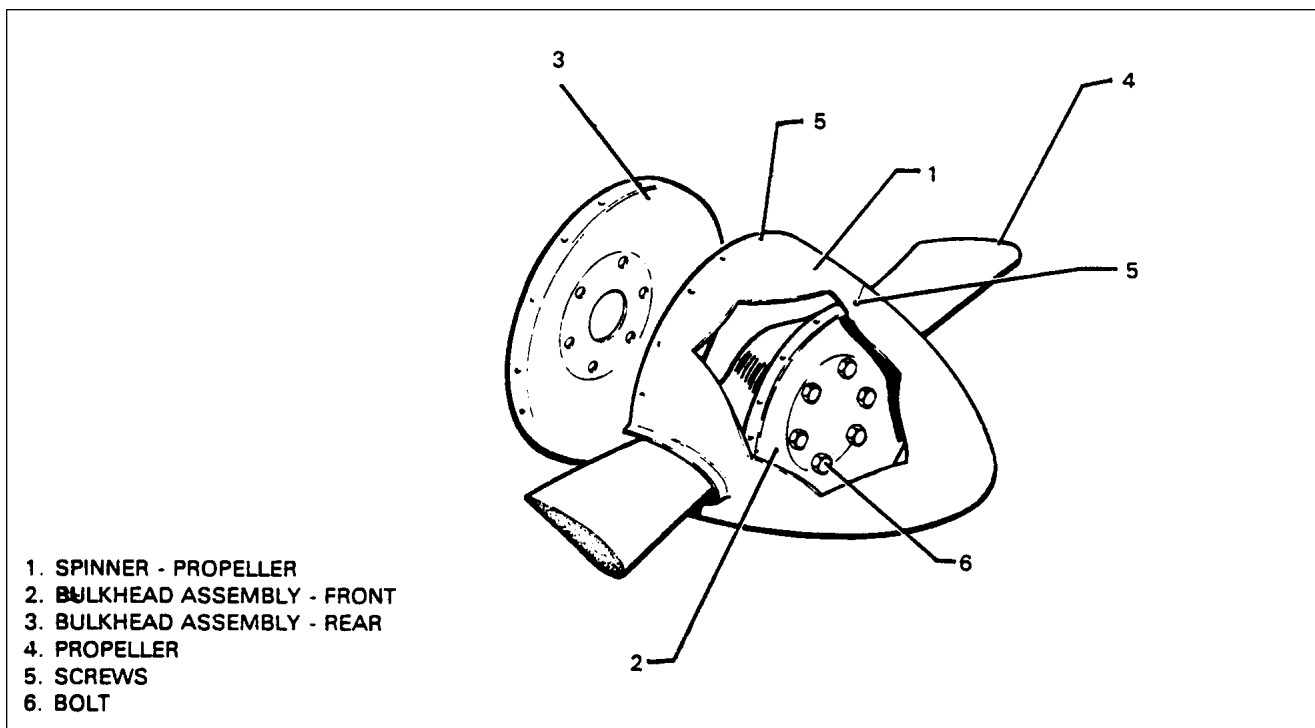

Figure 61-2. Archer II Propeller Installation
1. Archer II (Refer to Figure 61-2)
- d. Rotate crank shaft until top center (TC) mark on starter gear and crank case parting flange (or index mark on starter housing) are aligned.